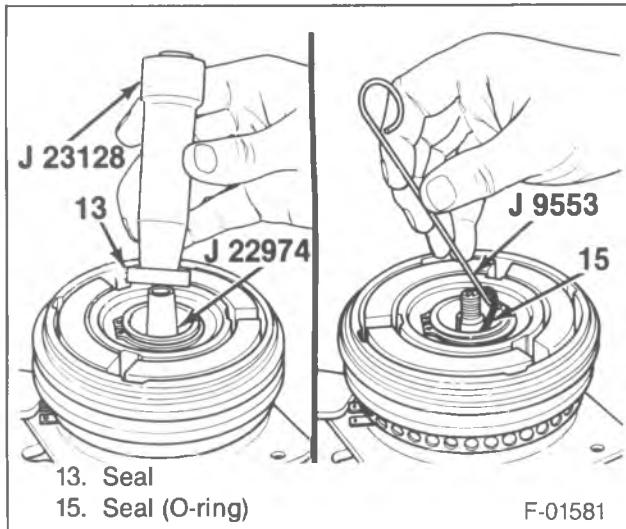
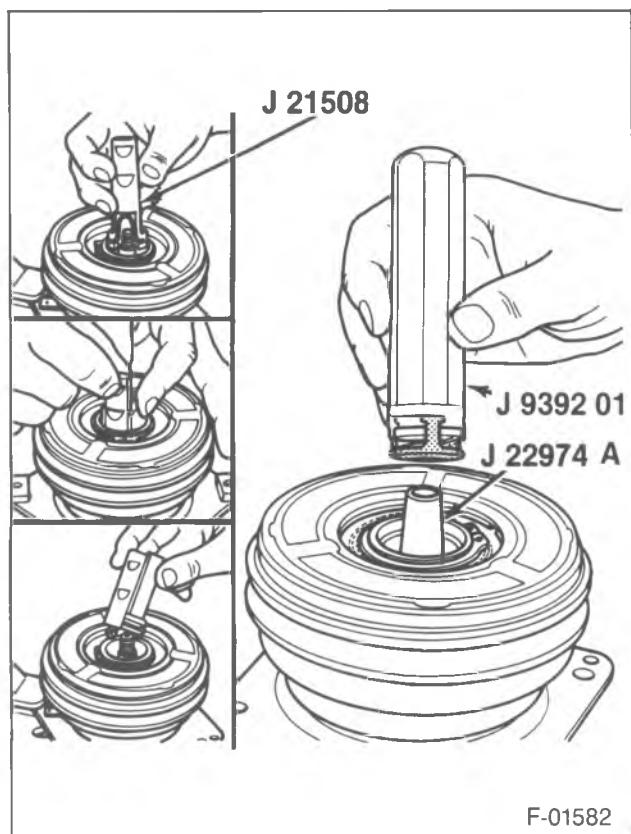

Figure 14—Removing/Installing the Shaft Seal Seat and Seal
Figure 15—Removing/Installing the Shaft Seal and Seal
5. Shaft seat (13) (figure 14).
- Place J 22974-A over the end of the shaft (38) to prevent chipping the ceramic seat (13).
- Lift the seat (13) from the compressor with a rotary motion.
6. Shaft seal (14) (figure 15).
- Insert J 9392-01 over the compressor shaft (39).
1. Seal (O-ring) (15) with J 33011 (figure 15).
- Dip the seal (15) into clean 525 viscosity refrigerant oil.
1. Rotate J 33011 to seat the seal (15).
2. Seal seat (14) (figure 15).
- Coat the seal (14) with clean 525 viscosity refrigerant oil.
- Mount the seal (14) to J 9392-01 by engaging the tabs of the seal with the tangs of J 9392-01.
- Place J 22974 over the end of the compressor shaft (39).
- Slide the seal (14) and J 22974 down onto the compressor shaft (38).
- Twist J 9392-01 to the right (clockwise) while pushing the seal assembly down the shaft (38) until the seal assembly (14) engages the flats on the shaft and seat in place.
3. Ceramic seal seat (13) (figure 14).
- Seal (13) to J 23128.
- Dip the seal (13) into clean 525 viscosity refrigerant oil.
- Install J 23128 and the seal (13) over the compressor shaft (39).
- Push the seal (13) into place with a rotary motion.